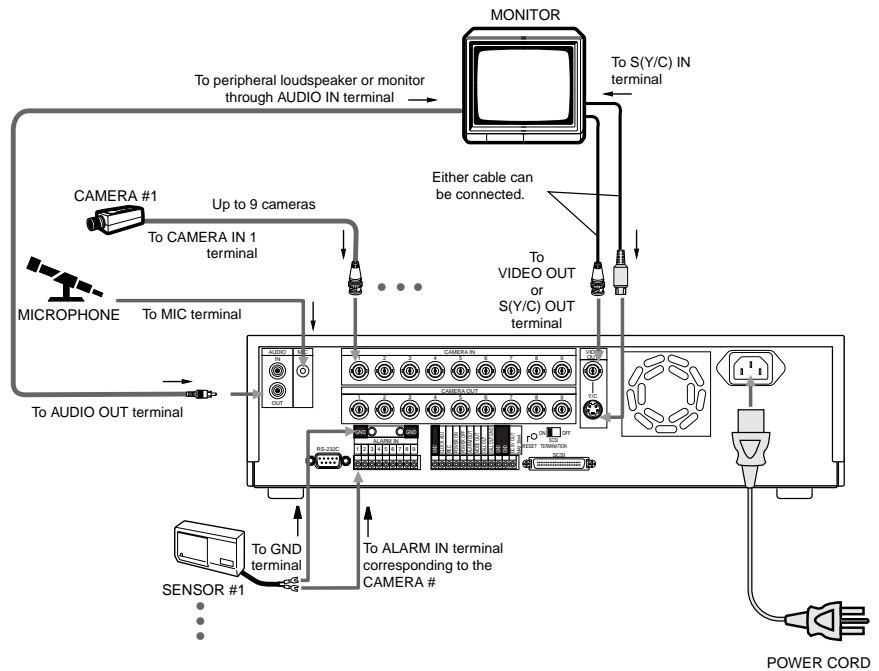
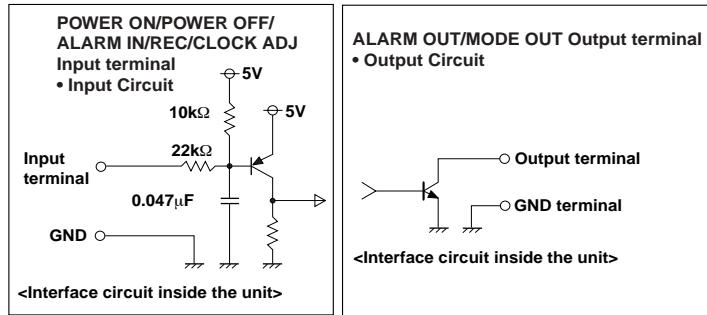

Figure 5. Equipment Connections (DX3009 Model Shown)
Figure 7. Schematics for Alarm Input and Output Terminals
1. Connect cameras, monitor, and audio equipment to the recorder as shown in Figure 5.
2. Connect alarm inputs and alarm output as shown in Figures 5 and 6. Figure 7 shows schematics for the alarm circuits.